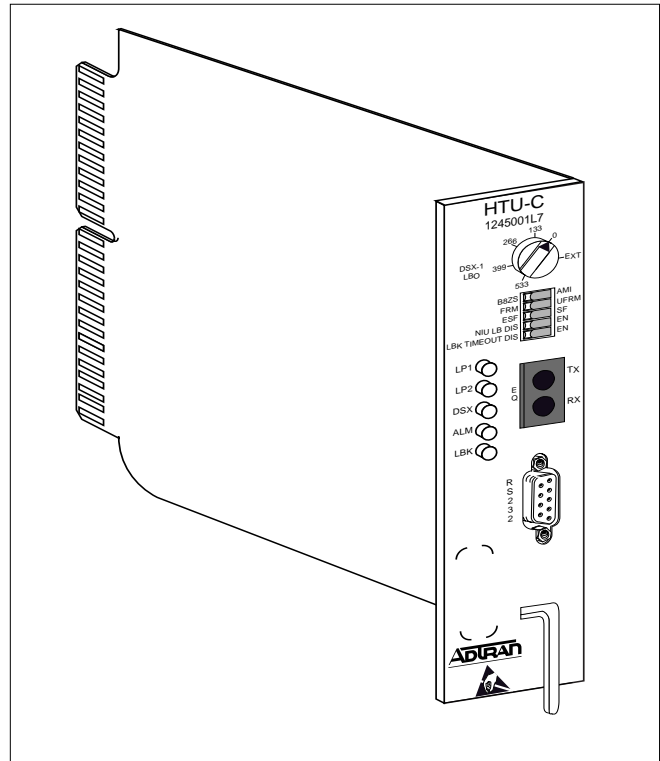

Figure 1. ADTRAN HTU-C
The ADTRAN E220/220 Low Voltage HDSL Transceiver Unit for the Central Office (HTU-C), part number 1245001L7, is the Central Office (CO) unit used to deploy an HDSL T1 circuit using four-wire metallic facilities. The unit occupies one slot in a standard 220 Office Repeater Bay or the ADTRAN E220 Shelf. Figure 1 is an illustration of the ADTRAN HTU-C.
One six-position rotary switch (RSW) and a five-position dipswitch pack (SW1) accessible from the faceplate of the unit are used to configure the mode of operation. Figure 1 shows the location of these switches.